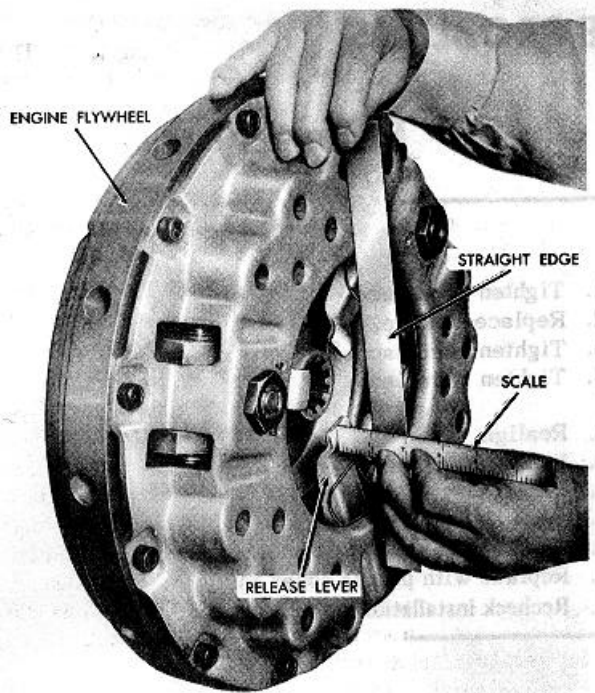

Figure 2. Checking Dimension 'A'
(1) Dimension 'A' is the distance from the top of the clutch flywheel ring (cover) to ends of release levers. See Fig. 2.
(2) Check for correct 'A' Dimension. Satisfactory operation of the clutch depends greatly upon the accuracy of the lever setting, as this controls the parallel movement of the pressure plate.
(3) A straight edge and scale will provide a means of checking the 'A' Dimension as shown in Fig. 2.
(4) See Chart on page 4-4 for release lever travel requirements.
(5) New or genuine Lipe-Rollway exchange cover assemblies are pre-adjusted at the factory and the lever settings shall not be altered. If the 'A' dimension does not check out within 1/32" recheck the complete installation and, if necessary, remove the cover.